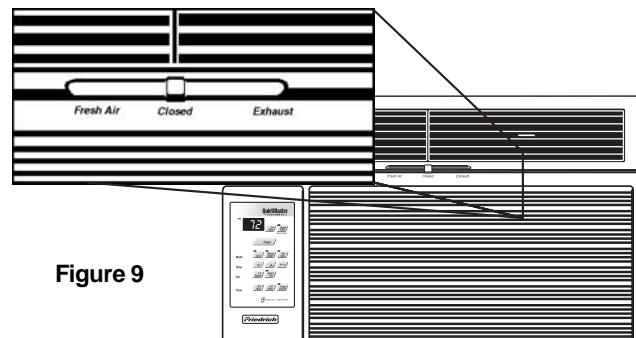

Figure 9
- ② COOL - Press the **Cool** button to automatically switch the operating mode to COOL.
- ③ FAN ONLY - Press the **Fan Only** button if you want to run the fan only. You may want to use this feature in conjunction with the **Fresh Air/Exhaust** if you want to bring outside air into the room, or exhaust stale air. (The FRESH AIR / EXHAUST feature is located on the front of the air conditioner near the top. See Figure 9 on page 7.)
- ④ MoneySaver® - Press the **MoneySaver®** button to activate the MoneySaver® feature. This cycles the fan with the compressor so that the fan does not run all the time.
The **Fan Only** setting can also be used with the **Exhaust** air setting to remove stale air or smoke from the room; or it can be used with the **Fresh Air** setting to bring outside air into the room. This is especially useful in the spring and fall when cooling may not be necessary. The **Fresh Air** and **Exhaust** controls are in the upper air discharge area. The center position of this control is the normal, or closed position, which recirculates air for maximum performance in the cooling mode (See Figure 9).
The **Fresh Air** and **Exhaust** controls are in the upper air discharge area (see Figure 9, page 7). The center position of this control is the normal, or closed position, which recirculates air for maximum performance in the cooling mode.
Your air conditioner has the ability to bring fresh air into the room or exhaust stale air out of the room. The control lever is found on the upper part of the unit (See Figure 9).